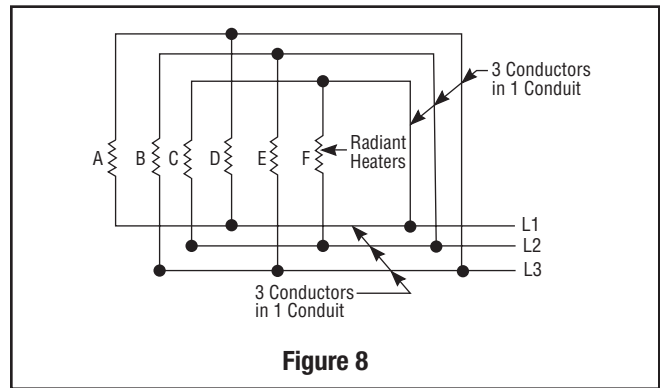

Figure 8
9. **DELTA CONNECTIONS** — When heaters occur in multiples of three, they may be connected to, and balanced across, three-phase lines. The most commonly used connection is the delta connection illustrated in Figure 8.